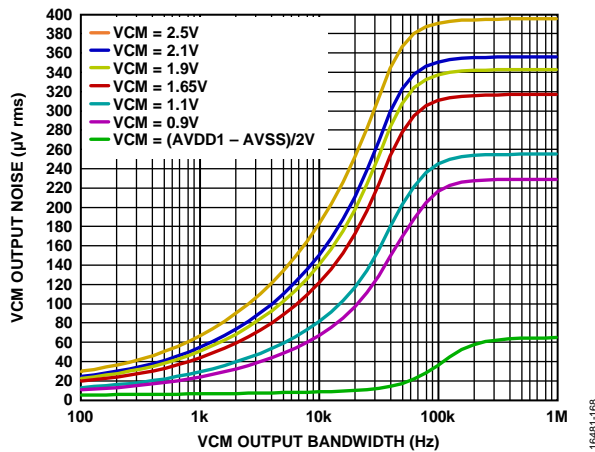

Figure 64. VCM Output Noise vs. VCM Output Bandwidth
Figure 64 is a simulation of the VCM noise for each VCM setting, plotted over a bandwidth of 100 Hz to 1 MHz. An external resistor capacitor (RC) filter is required to set the bandwidth to meet the VCM noise requirement. For example, a VCM output of 2.5 V has 180 μV rms of noise (see Figure 64). If the bandwidth is limited to 1 kHz, this noise can be reduced to approximately 65 μV rms (see Figure 64).